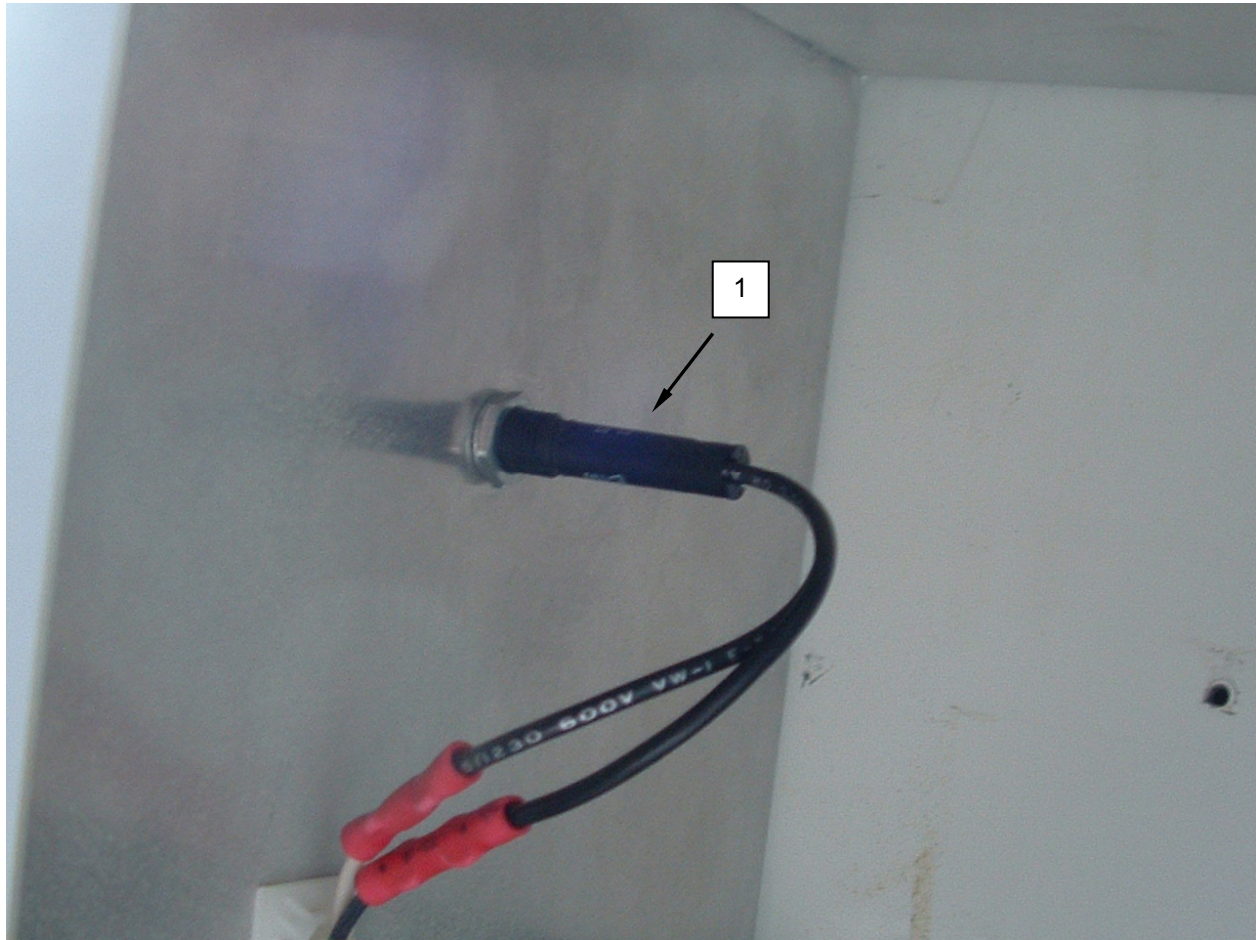

Figure 1. Replace the Phase Indicator Lights.
3. Tag and cut wiring from indicator light (**Figure 1, Item 1**).
4. Unscrew light assembly (**Figure 1, Item 1**) hex nut.
5. Remove failed light assembly (**Figure 1, Item 1**).
6. Install replacement light assembly (**Figure 1, Item 1**).
8. Connect wiring to indicator light terminals as tagged (**Figure 1, Item 1**).